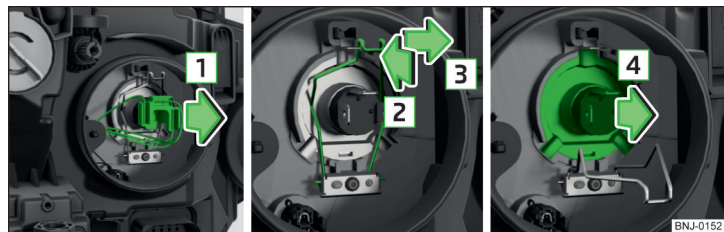

Fig. 206 Replacing the bulb for low beam and main beam
- Press the connector latch and remove the plug connector by jiggling in the direction of arrow **1** » Fig. 206.